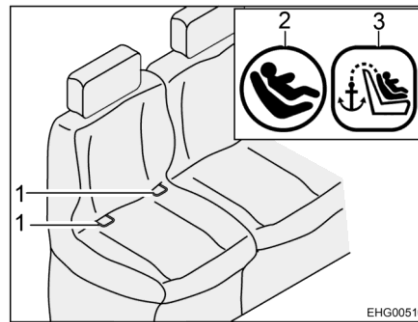
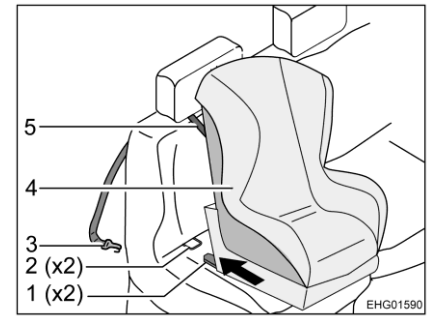

Fig. 15 Seat with Isofix
Fig. 16 Fastening with top tether
- Have the connectors (Fig. 16,1) snap into the retaining clips (Fig. 15,1 and Fig. 16,2). While doing this, a distinctive click must be heard.
- With a strong jerk, check if the child seat (Fig. 16,4) is firmly connected.
- Thread the top tether strap (Fig. 16,5) between the headrest and the back cushion.
- Hook the fixing hook (Fig. 16,3) onto the attachment point on the back of the vehicle seat.